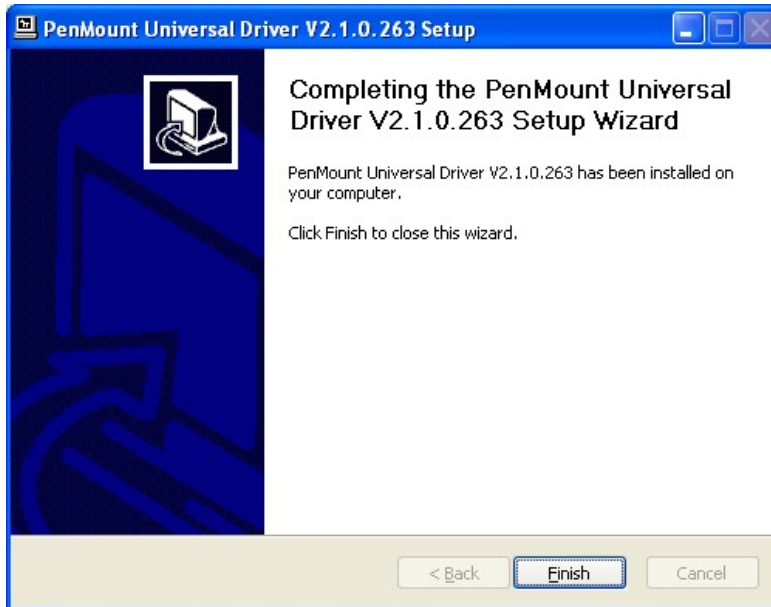

Figure 5-25: Touch Screen Driver Update Complete
Step 12: When the installation is complete, click **FINISH** to exit setup. (Figure 5-25).